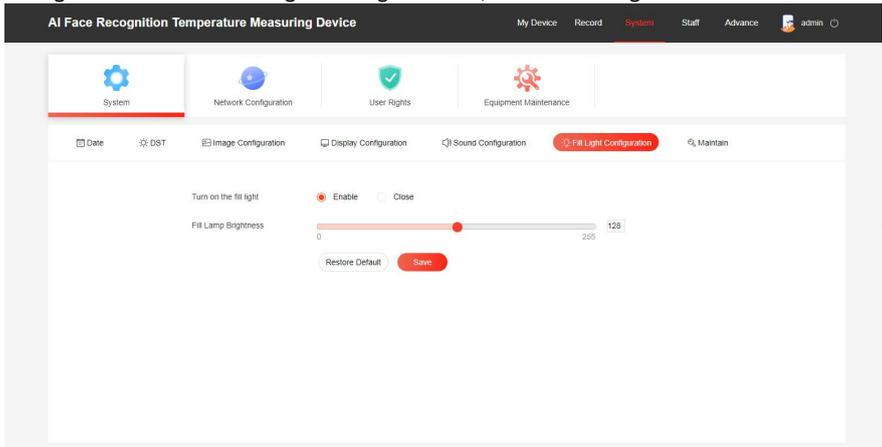

Figure 7-10
Step 1: After logging in to the web page, click "System → System → Fill Light Configuration" to enter the light setting interface, as shown in Figure 7-10 below.